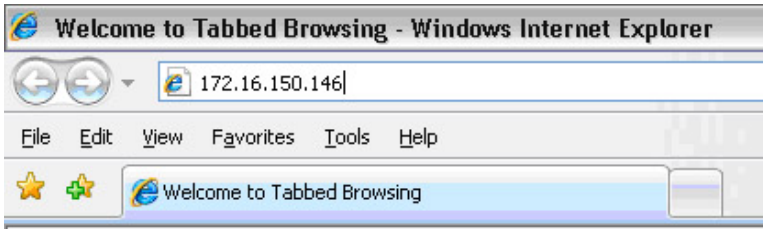

Figure 8
- 5) Enter the IP address (found in step 4) into the address line of Internet Explorer and press the ENTER key on your keyboard (Figure 8).